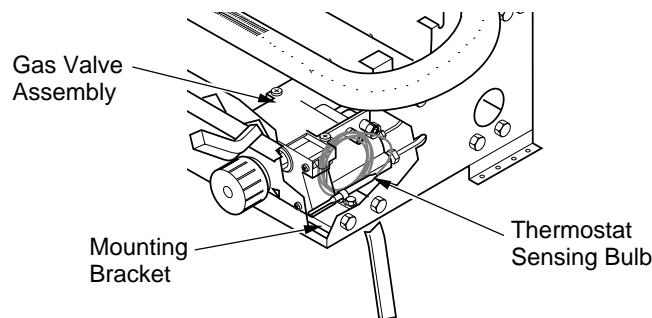

Figure 47 - Location of Gas Valve Assembly and Thermostat Sensing Bulb
1. Remove logs. Locate the gas valve assembly and thermostat sensing bulb (see Figure 47).